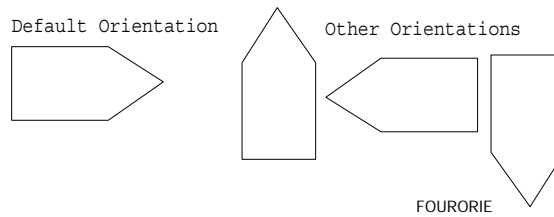

Figure 39: Four Orientations for Remote Connection Symbol
4. Position the remote connection symbol and select the proper orientation, clicking the right/middle button to change orientation (Figure 39). If you click and the orientation does not change, move the symbol closer to the middle of the work area.